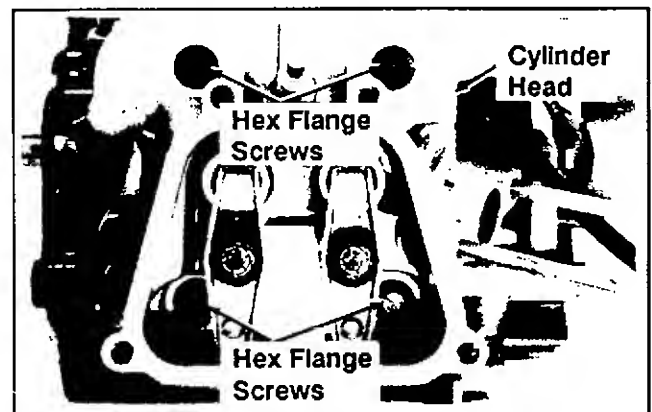

Figure 9-15. Removing Cylinder Head.
3. Remove the hex. flange screws, cylinder head, push rods*, and cylinder head gasket. See Figures 9-15 and 9-16.